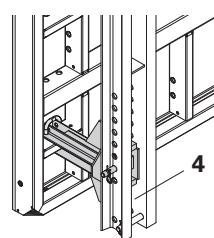

Fig. B2.11
3. Connections are possible on horizontal and vertical panel struts through repositioning of the bail pins. (Fig. B2.11 - B2.14)
4. Place Strongback CB (4) on the connectors. Bottom projecting length: see project drawings or C1.